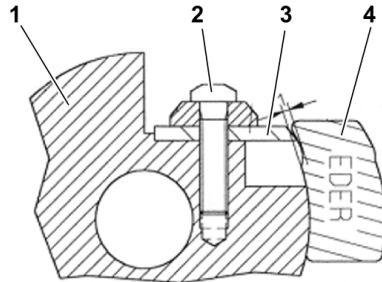

Fig. 15: Replacing knives on the carving cutter
- > Loosen the knife screw (2 - Fig. 15) slightly.
- > Place the knife gauge (4 - Fig. 15) on the milling head (1 - Fig. 15) and slide the knife (3 - Fig. 15) against the gauge until it touches the notched area.